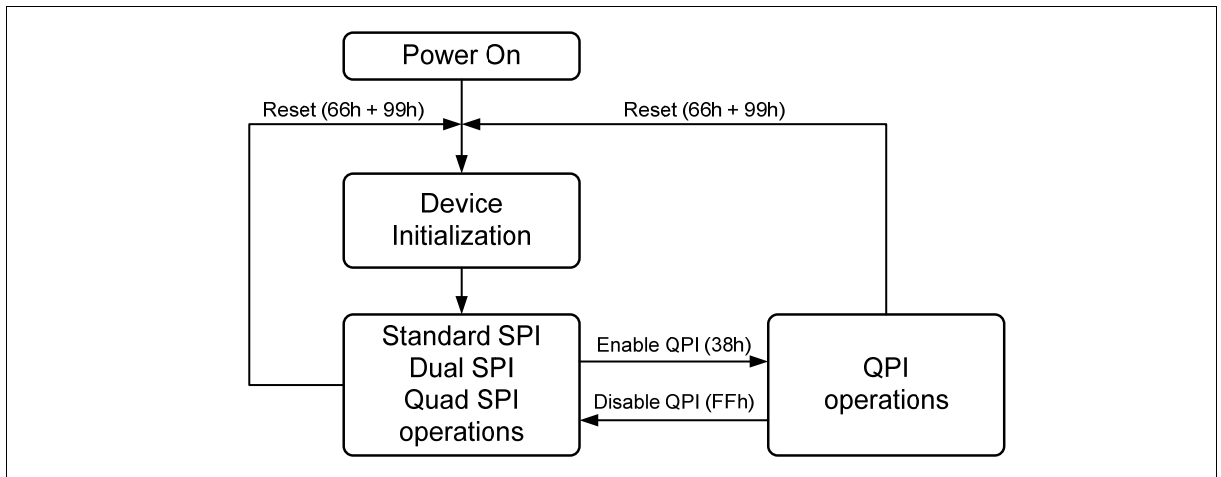

Figure 2 FM25Q32 Serial Flash Memory Operation Diagram
The FM25Q32 supports Quad Peripheral Interface (QPI) operations only when the device is switched from Standard/Dual/Quad SPI mode to QPI mode using the “Enable QPI (38h)” instruction. The typical SPI protocol requires that the byte-long instruction code being shifted into the device only via DI pin in eight serial clocks. The QPI mode utilizes all four DQ pins to input the instruction code, thus only two serial clocks are required. This can significantly reduce the SPI instruction overhead and improve system performance in an XIP environment. Standard/Dual/Quad SPI mode and QPI mode are exclusive. Only one mode can be active at any given time. “Enable QPI (38h)” and “Disable QPI (FFh)” instructions are used to switch between these two modes. Upon power-up or after a software reset using “Reset (99h)” instruction, the default state of the device is Standard/Dual/Quad SPI mode. To enable QPI mode, the non-volatile Quad Enable bit (QE) in Status Register-2 is required to be set. When using QPI instructions, the DI and DO pins become bidirectional  $DQ_0$  and  $DQ_1$ , and the WP# and HOLD# pins become  $DQ_2$  and  $DQ_3$  respectively. See Figure 2 for the device operation modes.